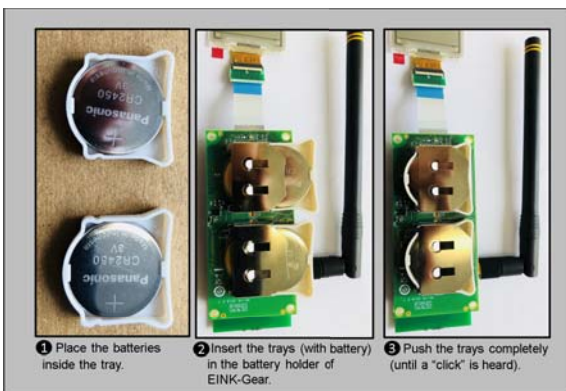

Figure 4. Battery Placement
1. Insert the two batteries in the node as shown in Figure 4.